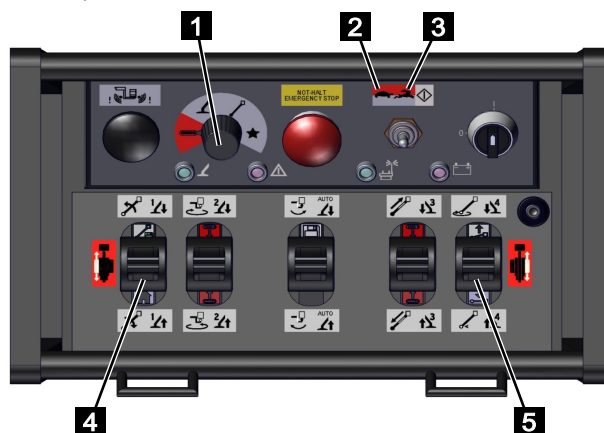

Fig. 102
2. Set the function selection switch to [crawler function] (red) (Fig.102/1).
3. Use the mode selector to select [crawl speed] (Fig.102/2) or [fast speed] (Fig.102/3).
4. Use the control levers (Fig.102/4 and 5) to move the machine as shown in the following table.